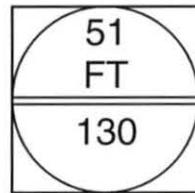

Figure 85. Instrument Tag
- 11. Perform the following substeps to interpret the information on the instrument tag in figure 85.
- A. Determine the type of device indicated by the tag in figure 85.
- B. Determine where the device is located, according to the tag in figure 85.
- D. Determine what the device is measuring, according to the tag in figure 85.
- E. Determine the loop in which the device is located, according to the tag in figure 85.
- F. Determine the area in which the device is located, according to the tag in figure 85.
- G. Determine the first modifier of the device tag in figure 85.